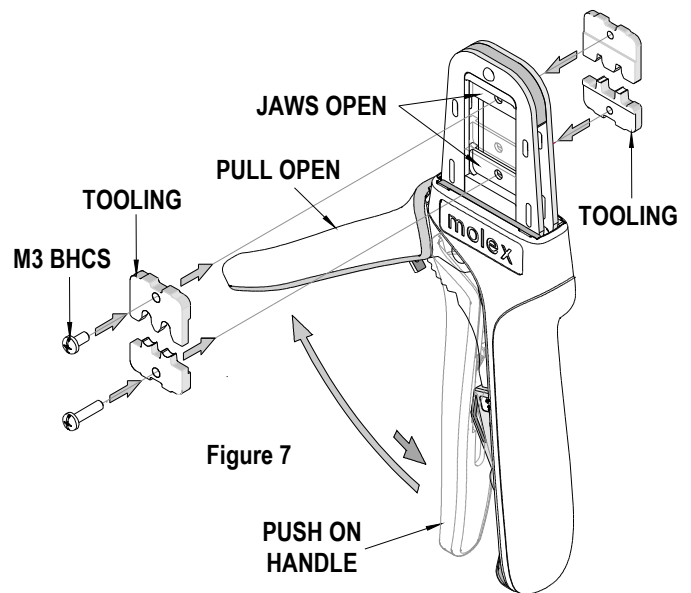

Figure 7
3. Flip the upper tooling to the opposite side and replace the M3 BHCS. Make sure the small markings on the front and back of the hand tool frame match up and are on the outside of the hand tool frame. See Figure 7 and 8.